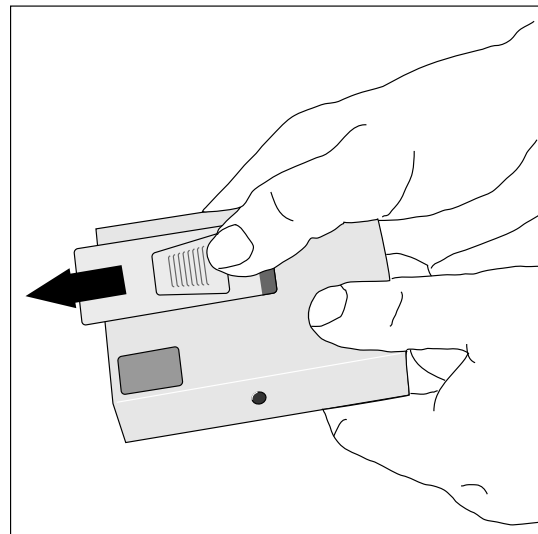

Fig. 3-1 Opening the battery compartment
- Hold TONOPORT V as shown in Fig. 3-1 and slide the lid of the battery compartment open (approx. 1 cm).